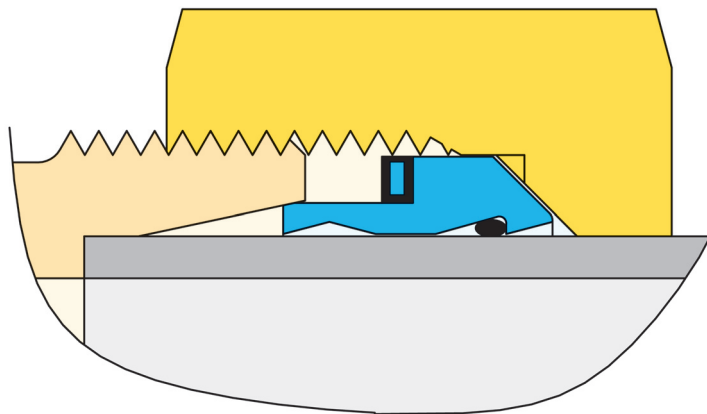

FIG.3
The ring AR3/C at its axial end, at the head side, features a vulcanised rubber sealed washer (Figure 3) and at rear an O-ring gasket placed in an annular recess.
- d.2) Tighten nut TN 81 till meeting a strong (sudden) resistance caused by the coupling of surfaces A – B (AUTOMATIC CLOSING) (Figure 3) . Control that the tube is not turning with nut TN 81 .